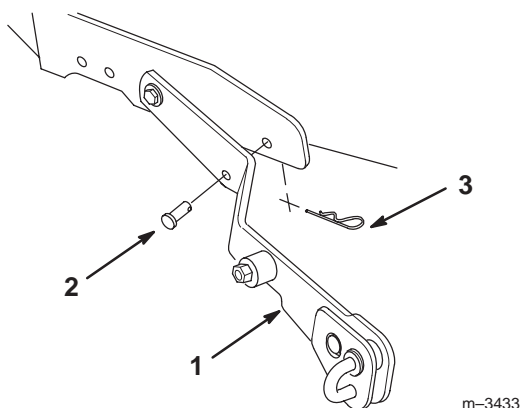

Figure 9
4. Secure the lift arms to the tractor frame with two, 3/8 x 1 in. (25 mm) clevis pins and two small hairpin cotters (Fig. 9).